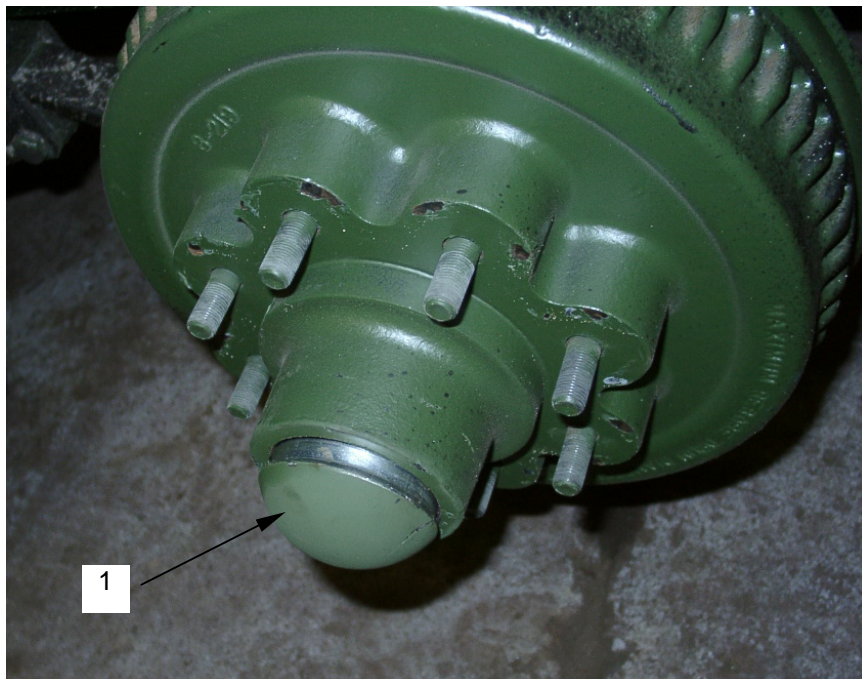

Figure 27. Wheel Bearing Cap
- m. Using a screwdriver, pry the wheel bearing cap (**figure 27, item 1**) off the wheel.